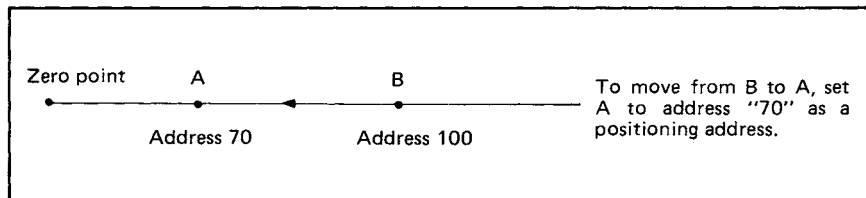

Fig. 3.7 Absolute Method
- In absolute mode positioning, positions are reached with reference to a zero point address. (See Fig. 3.7.)